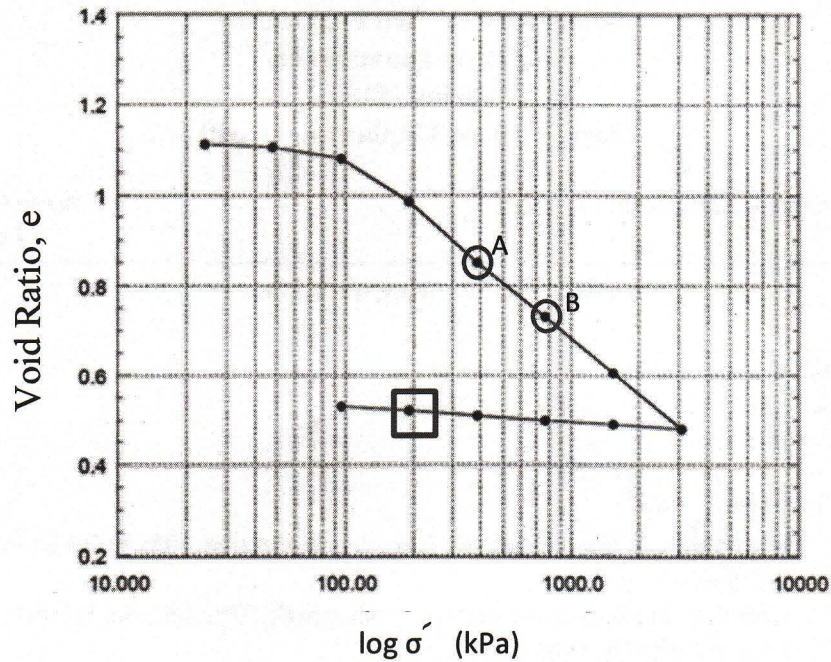

Figure 2
3. The  $e$ - $\log \sigma'$  curve (Fig. 2) is drawn from one-dimensional consolidation test results.